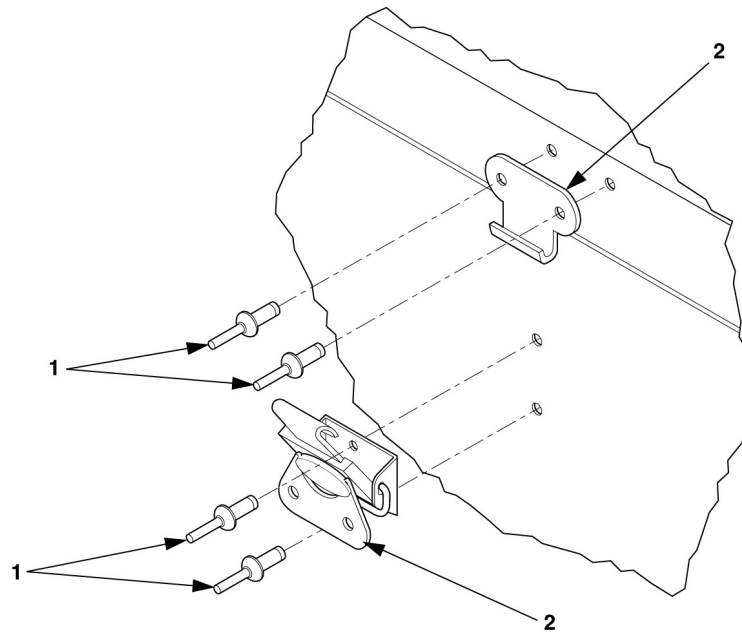

Figure 4-12.1. Clamping Catch Replacement (B&C Models)
1. Drill out rivets (1, figure 4-12.1) that secure clamping catch (2).
2. Remove defective clamping catch (2).